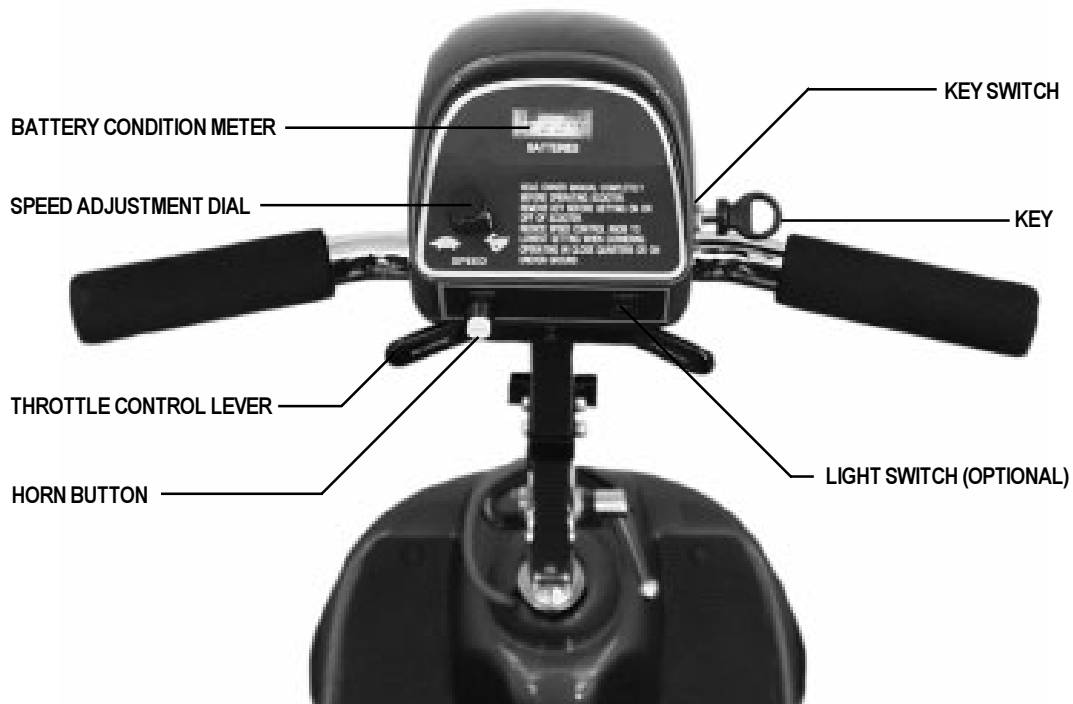

Figure 6. Control Console Assembly
The control console assembly houses all of the controls you need to drive your Rally; including, the key switch, the speed adjustment dial, the throttle control lever, the battery condition meter, the horn button, and the light switch (optional). See figure 6.
7. You can, if you wish, periodically check the battery condition meter by inserting the key in the key switch, examining the battery condition meter, and then removing the key. See figure 6. As the batteries charge, the battery condition meter approaches the 100% reading.